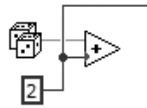

Figure 4.39
- When wires cross, a small gap appears in the first wire drawn, as if it were underneath the second wire (see Figure 4.39). You can also choose **Tools>>Options . . .** and go to the **Block Diagram** menu; then check the box to **Show dots at wire junctions**.